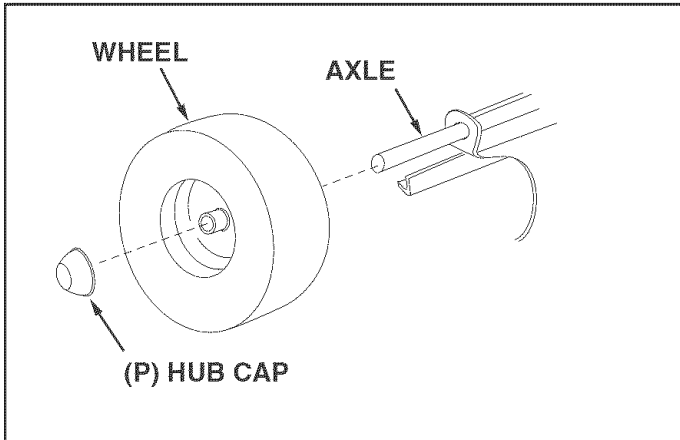

FIGURE 6
STEP 6: (SEE FIGURE 6)
- Assemble a wheel with the valve stem facing out onto the axle. Assemble a hub cap (P) by pressing or tapping it onto the axle. Repeat on other end of axle.